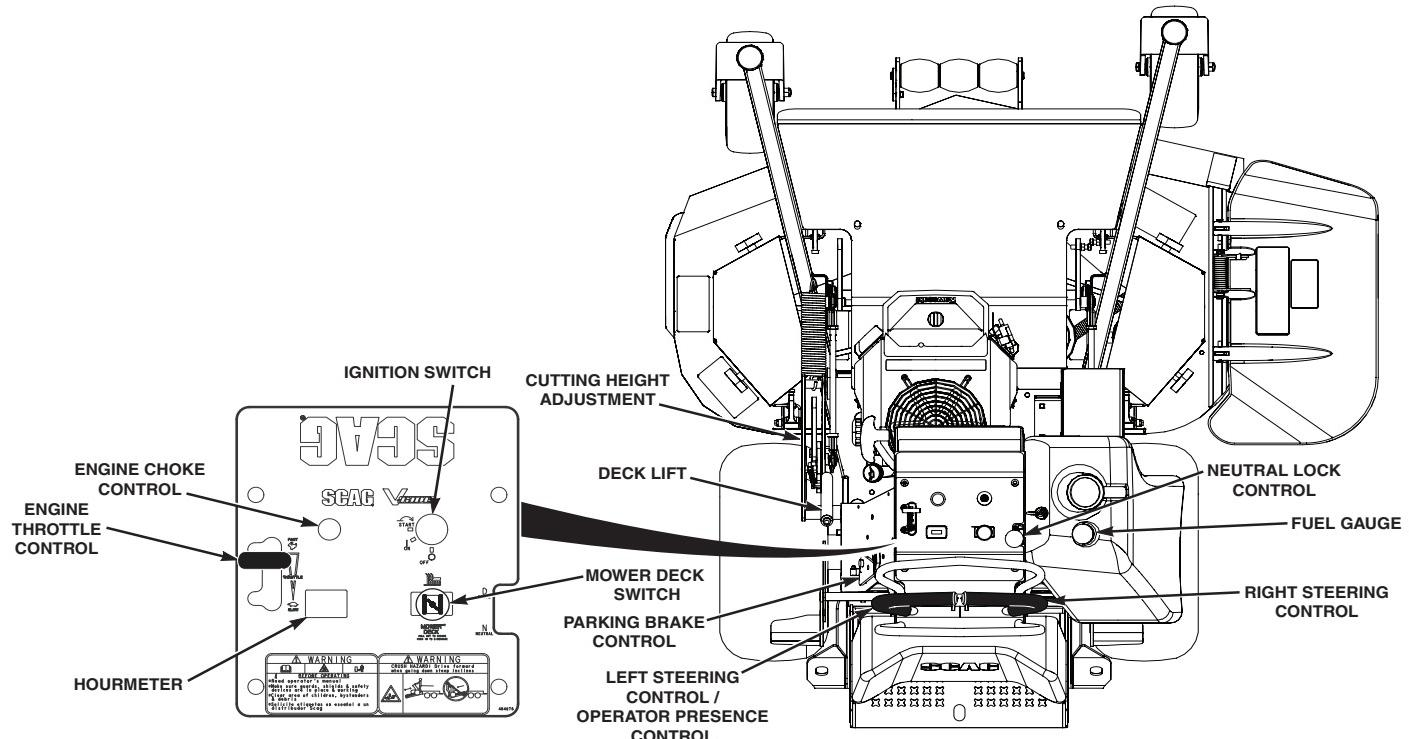

Figure 4-1. Controls and Instruments
- 1. Ignition Switch (Figure 4-1).** The ignition switch is used to start the engine and has three positions; OFF, ON, and START.
- 2. Mower Deck Switch (Figure 4-1).** Used to engage and disengage the mower drive system. Pulling up on the switch will engage the deck drive. Pushing down on the switch will disengage the deck drive.
- 3. Engine Choke Control (Figure 4-1).** Used to start a cold engine.
- 4. Engine Throttle Control (Figure 4-1).** Used to control the engine speed. Pushing the lever forward increases engine speed. Pulling the lever back decreases engine speed. Full back position is the IDLE position. Full forward is the cutting position.
- 5. Hourmeter (Figure 4-1).** Indicates the number of hours the engine has been operated. It operates whenever the engine is running. Has preset maintenance reminders for engine and hydraulic system oil changes. Will start flashing scheduled maintenance 2 hours before preset time and continue flashing until 2 hours after. Automatically resets.
6. Left Steering Control / Operator Presence Control (Figure 4-1).
7. Right Steering Control (Figure 4-1). Used to control the mower's right wheel when traveling forward or reverse. See Section 4.5 for further details regarding the mower's travel controls.**8. Neutral Lock Lever (Figure 4-1).** Used to disengage the mower drive in the neutral lock position (N) or to engage to the mower's drive in the drive position (D). See Section 4.5 for further details regarding the mower's travel controls.**9. Parking Brake Control (Figure 4-1).** Used to engage and disengage the parking brakes. Pull the lever back to engage the parking brakes. Push the lever forward to disengage the parking brakes.**10. Deck Lift Lever (Figure 4-1).** Used to raise and lower the cutter deck.**11. Cutting Height Adjustment (Figure 4-1).** Used to set the cutter deck at the desired cutting height.**12. Fuel Tank Gauge (Figure 4-1).** Indicates the amount of fuel in the fuel tank.